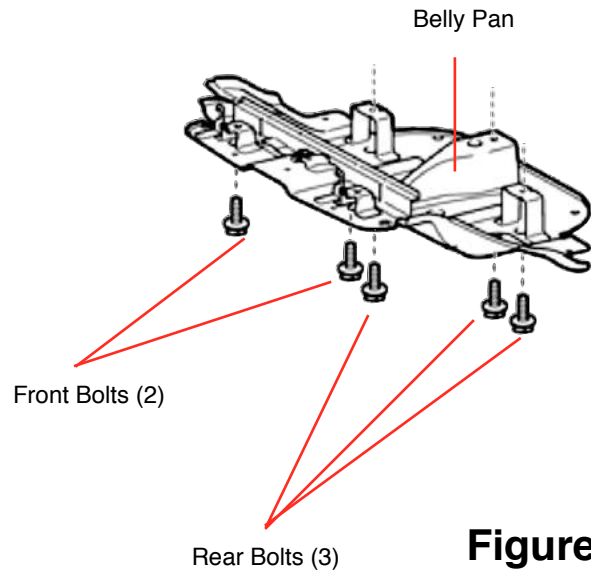

Figure 2
Remove the (2) front belly pan bolts (See Figure 2) using a 12mm socket.